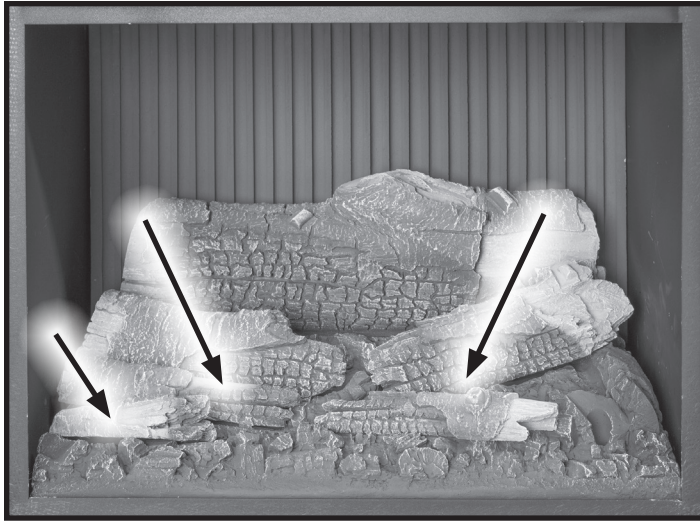

Figure 50. Front Ember Bed Logs.
5. Install the front three ember bed logs as shown in Figure 50. Note the locating notches on the backside of the logs. The depressions in the ember bed only allow the logs to be installed one way.